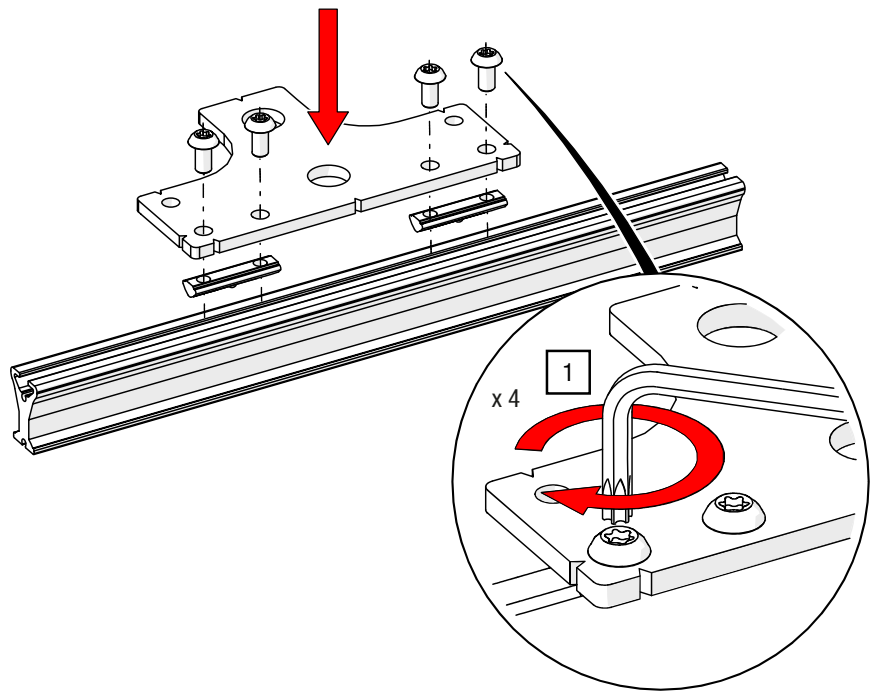

Fig. 47: Double track suspension bracket (double track) – Mount longitudinally to the track (compensation)
1. Insert the slot nuts into the track profile and screw the plate in the compensation orientation using a TORX®-key T25 and 6 Nm (see Fig. 47).